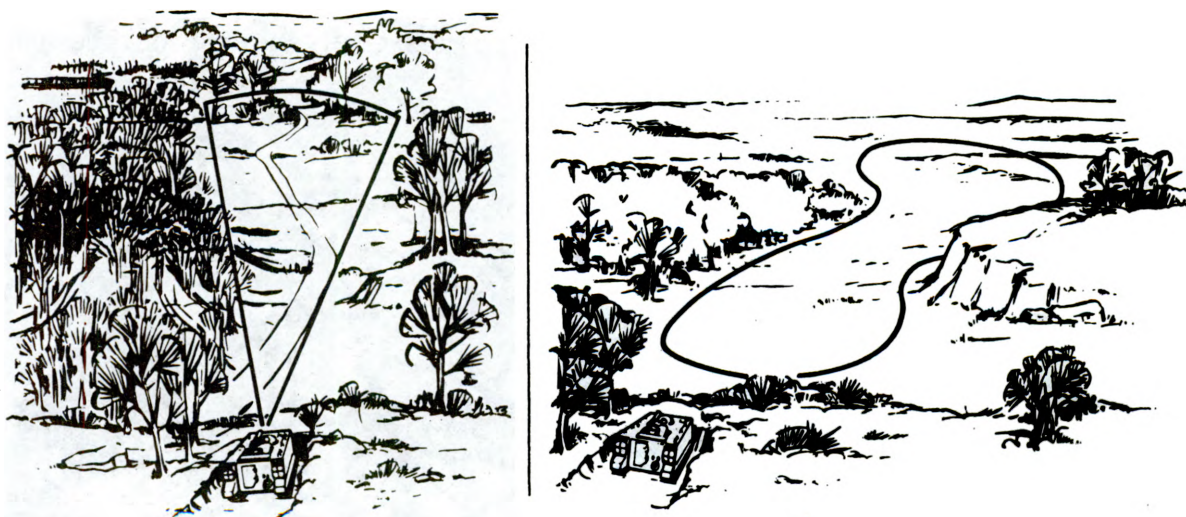

Figure 1
(2) Sectors of fire. A sector of fire is the area you will be assigned to cover with your TOW squad. Sectors are assigned to insure that fires are adequately distributed throughout the battle area, to insure that all armor avenues of approach are covered, and to facilitate the massing of fires. They are normally designated by natural terrain features, whenever possible, for ease of identification. Frequently, sectors of fire are shown as being fan-shaped areas; however, a sector of fire may be any shape (fig. 1).